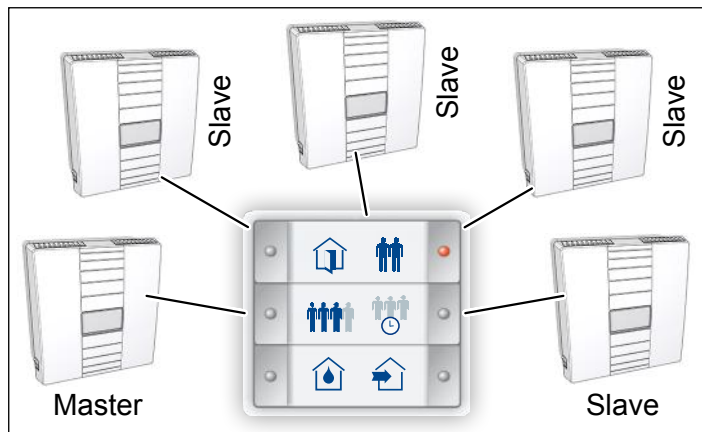

Fig. 8: Connecting the ventilation units in a star configuration
- If possible, the control cables should be arranged and connected in a star configuration (see Fig. 8) from the ventilation units to the InControl pushbutton sensor.